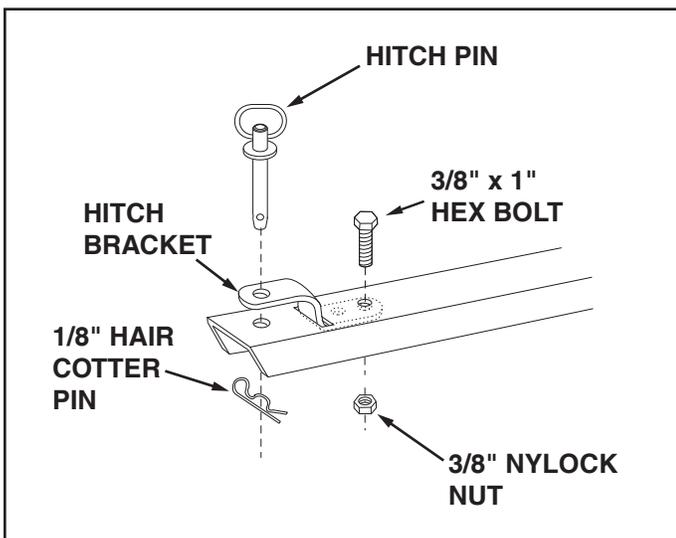

FIGURE 13
22. Assemble the end of the hitch bracket with two holes down through the slot at the front of the drawbar tongue. Fasten it to the tongue using the 3/8" x 1" hex bolt and 3/8" nylock nut. **Tighten.** See figure 13.
23. Assemble the hitch pin through the tongue and hitch bracket and secure with the 3/32" hair cotter pin. See figure 13.